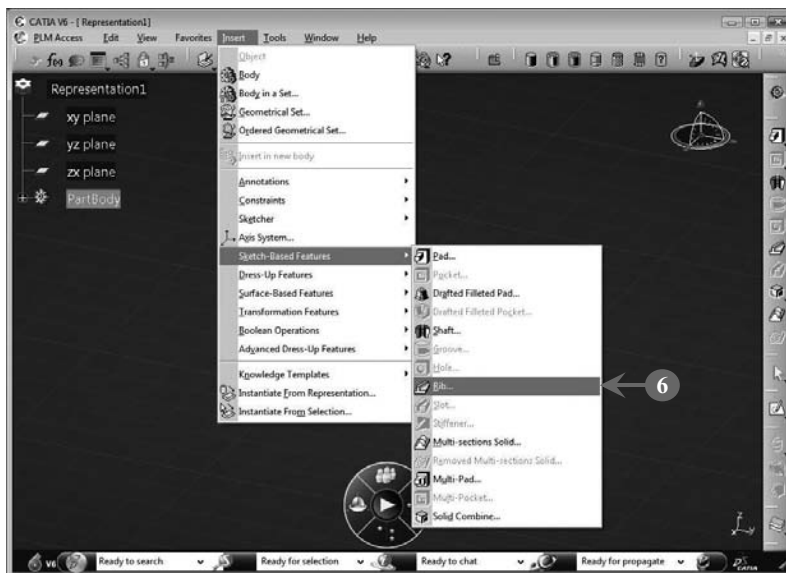

FIGURE 3.36
6. Select the rib feature by using **Insert > Sketch-Based Features > Rib**, as shown in **Figure 3.36**: